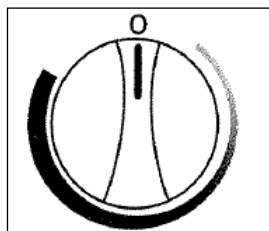

Fig. 2
- To turn off the wine cooler (no cooling) rotate the control knob to the “0” (off) position. **See Fig. 2.** Turn the control to the “OFF” (0) position to temporarily disconnect the cooling cycle. When the wine cooler is not to be used for long periods of time, disconnect from power and leave the door partially open.